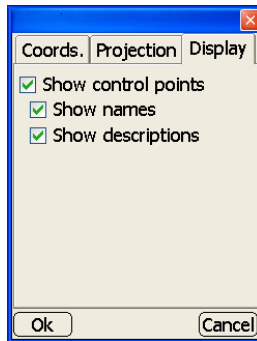

Figure 1-33. Control Options – Display
2. On the control options dialog box (Figure 1-33 on page 1-32), press the *Display* tab and do the following and press **Ok**: